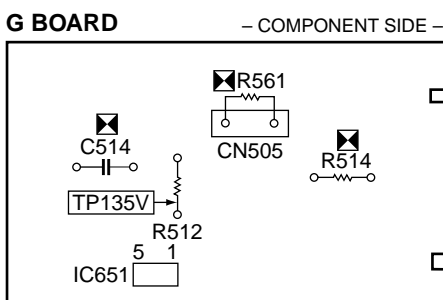

Fig. 4-2
5. If anode voltage is 30kV or lower, replace C514 of 390PF/2kV with that of 100PF/2kV, and check if the voltage is within the standard range. **(Fig.4-2)**
1. Repeat steps ① ~ ⑦ as above.
3. If hold down voltage is 32.5kV or lower, mount a resistor (220k Ω , 1/4W : RN) onto R561 and check again if the hold-down voltage is within the standard range. **(Fig.4-2)**
5. If step 4 is not satisfied, replace IC651 and repeat above steps. **(Fig.4-2)**
3. Connect a 220k Ω variable resistor, across pin ③ and pin ⑤ of IC651 set to maximum value.
6. Gradually turn the 220k Ω variable resistor, and check if OVP works properly when the voltage of TP135V is between 139.0 ~ 151.5V. **(Fig.4-2)**